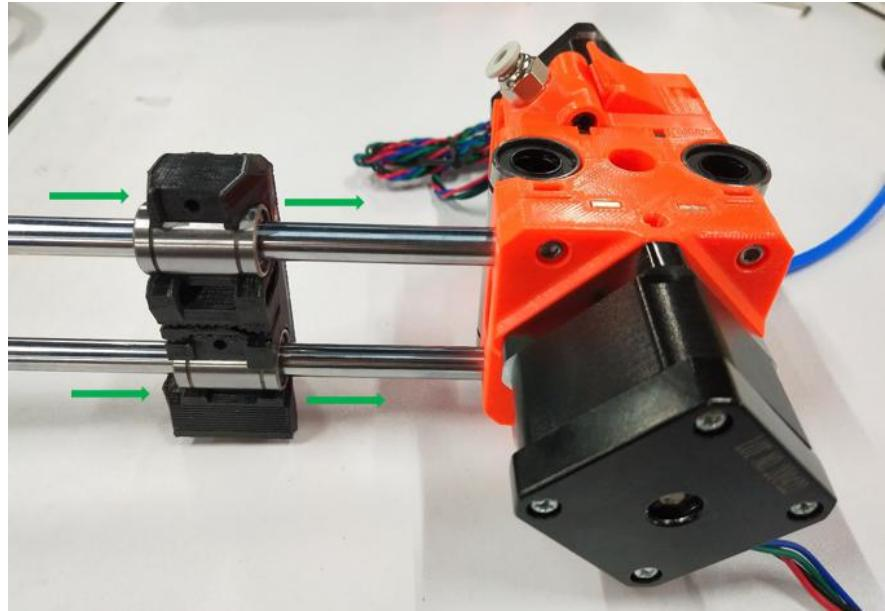

Figure 2.11.5
**Step 2-11-4:** As shown in Figure 2.11.5, gently put the linear bearing on the MINI-x-carriage into the smooth rod, (note that the linear bearing and the smooth rod must be kept coaxially assembled, otherwise it is easy to make the straight line The balls in the bearing fall out) ,Pay attention to the direction of MINI-x-carriage installation.